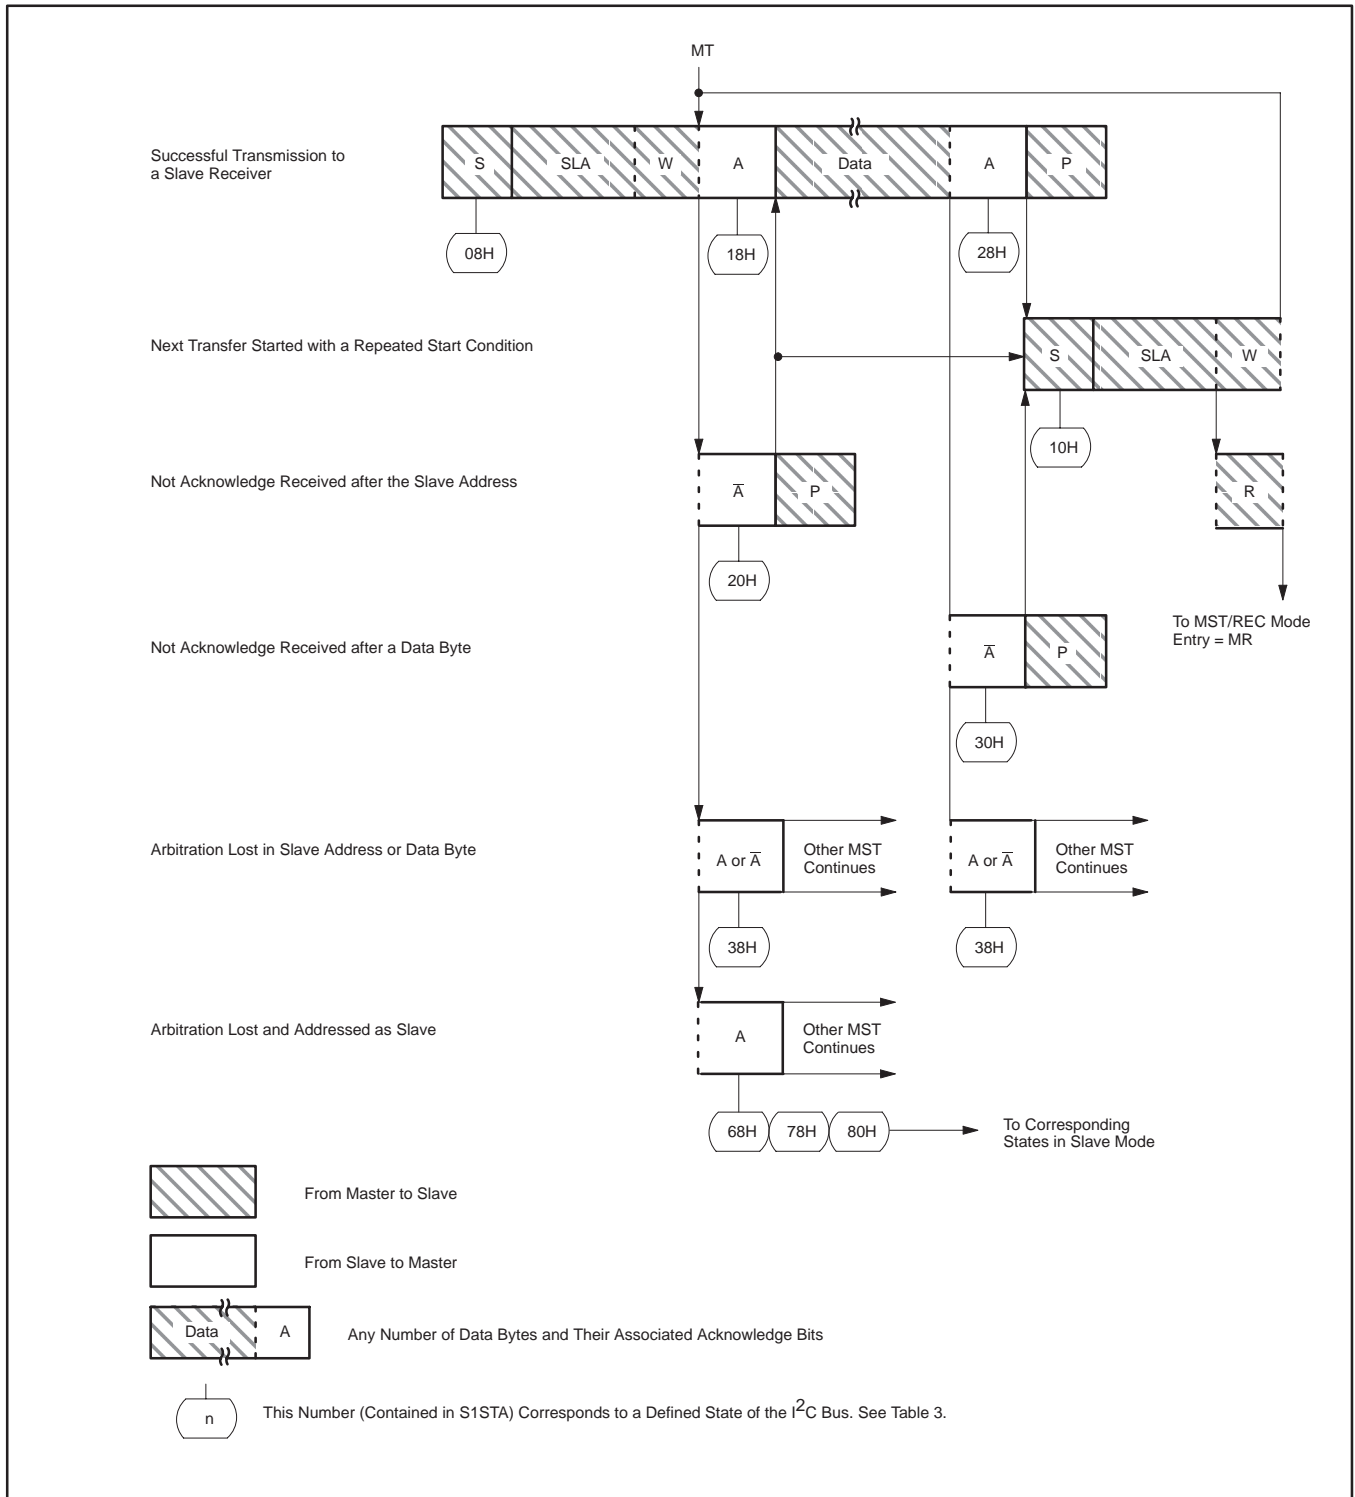

Figure 17. Format and States in the Master Transmitter Mode
**Master Transmitter Mode:** In the master transmitter mode, a number of data bytes are transmitted to a slave receiver (see Figure 17). Before the master transmitter mode can be entered, S1CON must be initialized as follows: